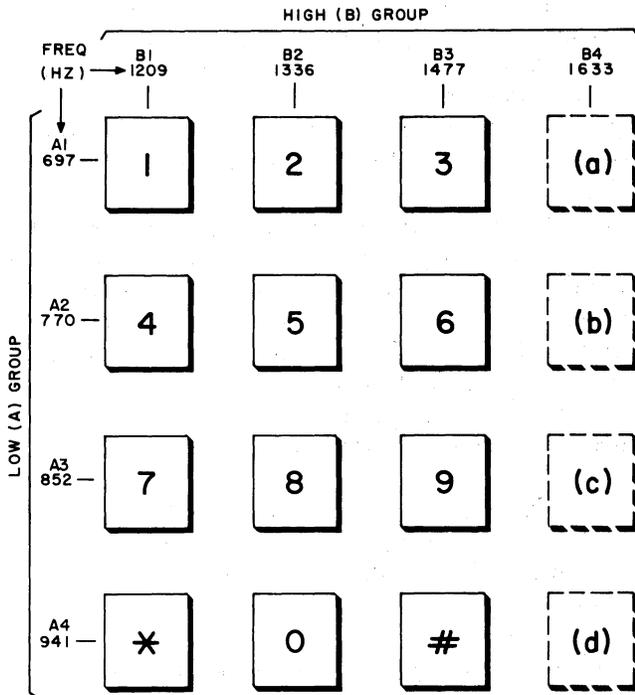

Fig. 8—TOUCH-TONE Dial Frequency Assignments
3.04 The receiver portion of the data set accepts 2-out-of-8 TOUCH-TONE signals. The TOUCH-TONE signals consist of two groups of frequencies, a low group and a high group, each containing four frequencies. These frequencies are grouped and designated as shown in Fig. 8. The receiver detects TOUCH-TONE signals at a maximum rate of ten characters per second. A character consists of one frequency from each group. Therefore, the 2-out-of-8 code provides 16 different frequency pairs (characters). DS 407CR recognizes all of these characters.